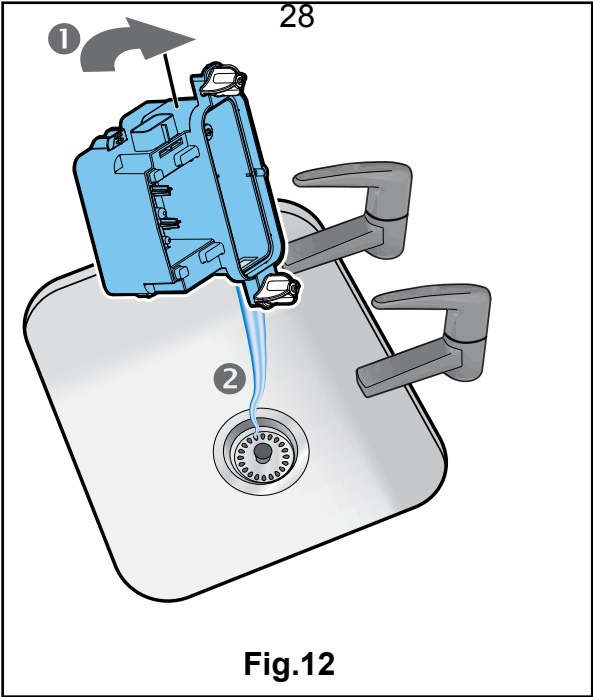

Fig.12
8. Carefully tilt, as shown, so that the liquid drains out of the sump. (See Fig.12)
| The flame effect is too low. | Flame effect is set too low. The Metal Disc in the transducer might be dirty (See Fig.12) The wire from the Transducer Unit is sitting over the metal disc | Increase level of flame by changing the FIRE setting on the remote control See 'Adjust the Flame Setting' Clean the Metal Disc with soft brush supplied. (See Fig.12) See 'Maintenance.' for a step by step procedure. Direct the wire to the back of the sump and make sure it sits into the side slot exiting the sump. |